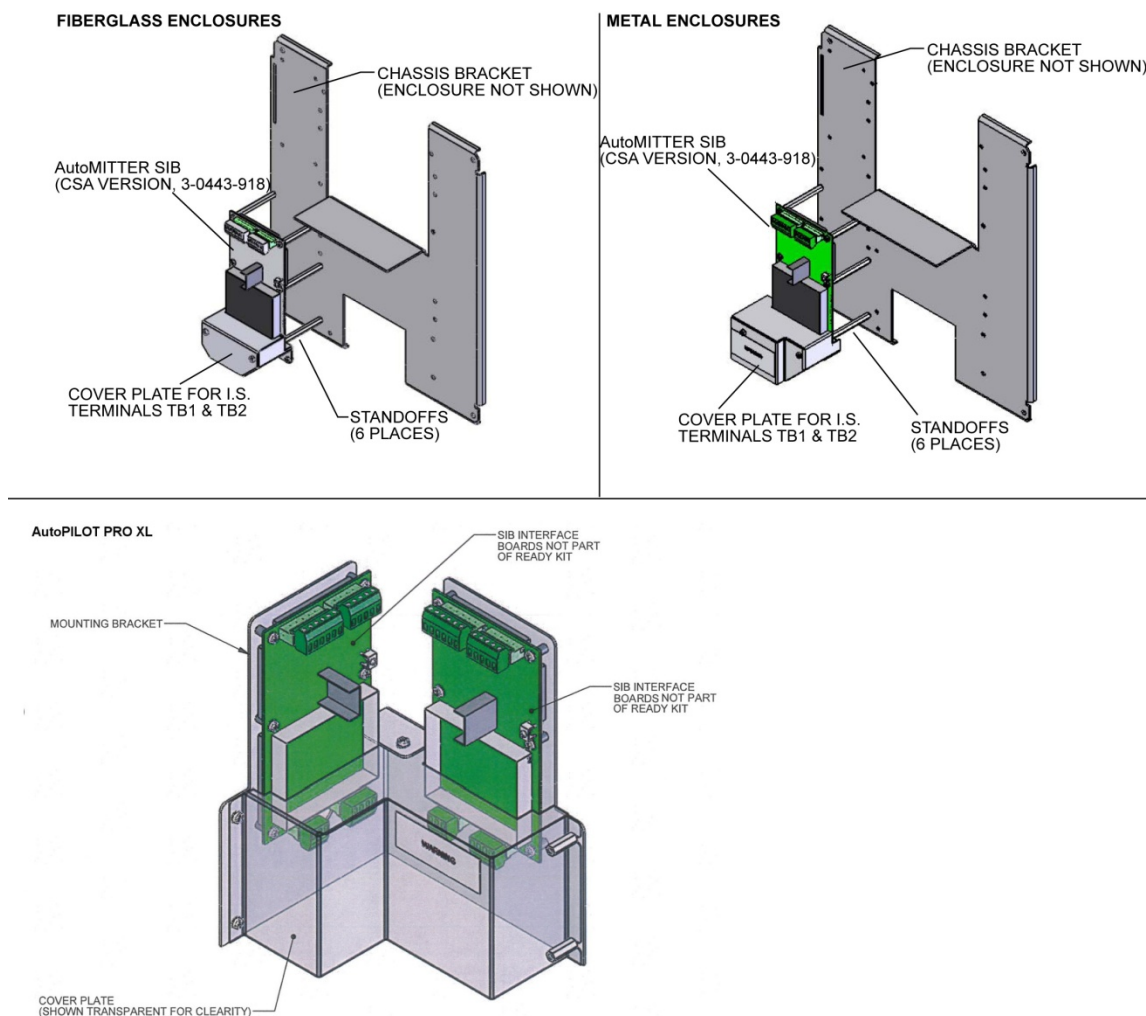

Figure 6–2. Mounting the SIB onto the chassis
3. TB14 on the main board is the SIB connector. Using the SIB cable, connect TB14 to TB4 on the SIB as shown in Figure 6–3.